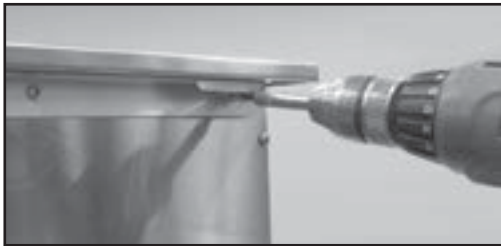

Fig. 07
2. Install the bracket tab on both sides of the appliance head using 8 of the 10-24 x 1/2" screws. Install each bracket with 4 screws on each side of the outdoor appliance head (Fig. 07 and 08).